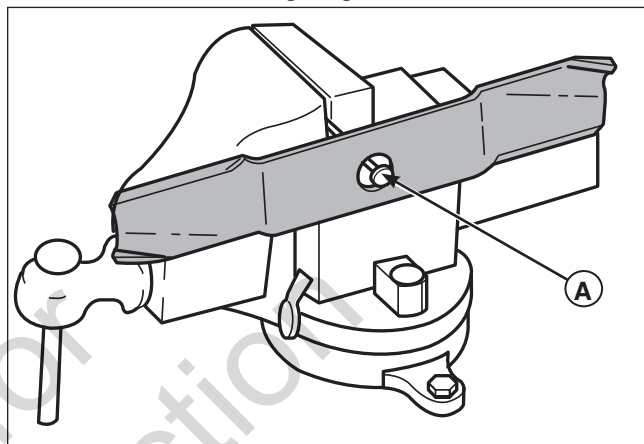

Figure 25. Balancing the Mower Blade
2. See Figure 25. Put the mower blade on a nail in a vise and turn the mower blade to the horizontal position.